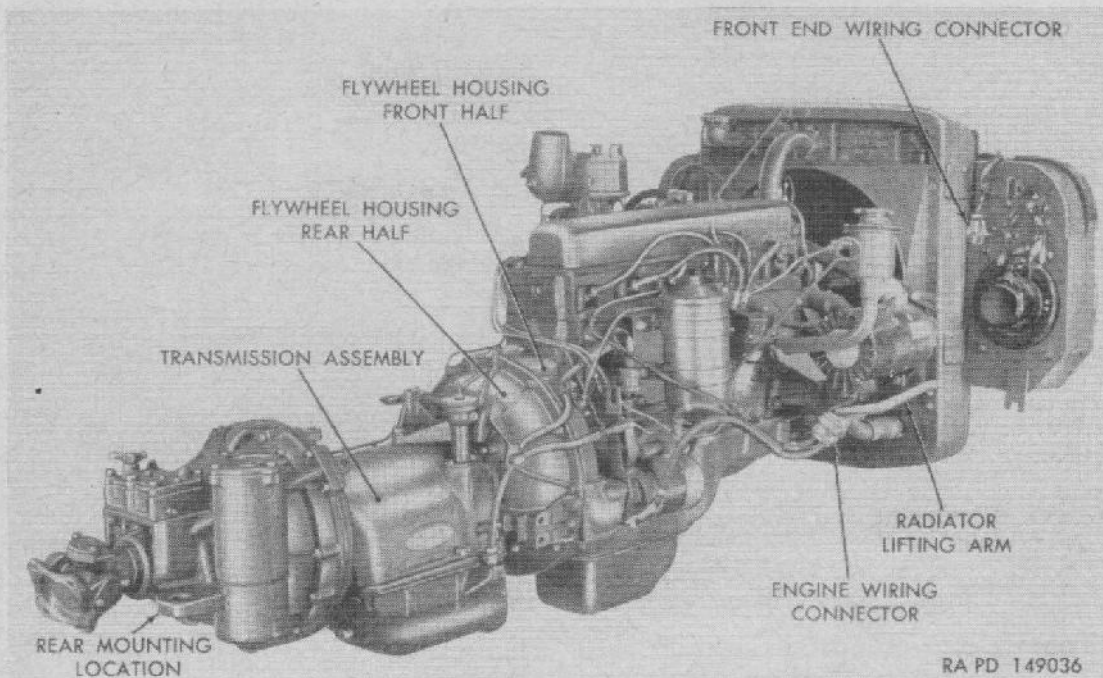

Figure 42. Power plant removed from vehicle.
a. GENERAL. Transmission, radiator, engine mountings, and wiring harness must be assembled to engine and complete power plant installed in vehicle as a unit (fig. 42).